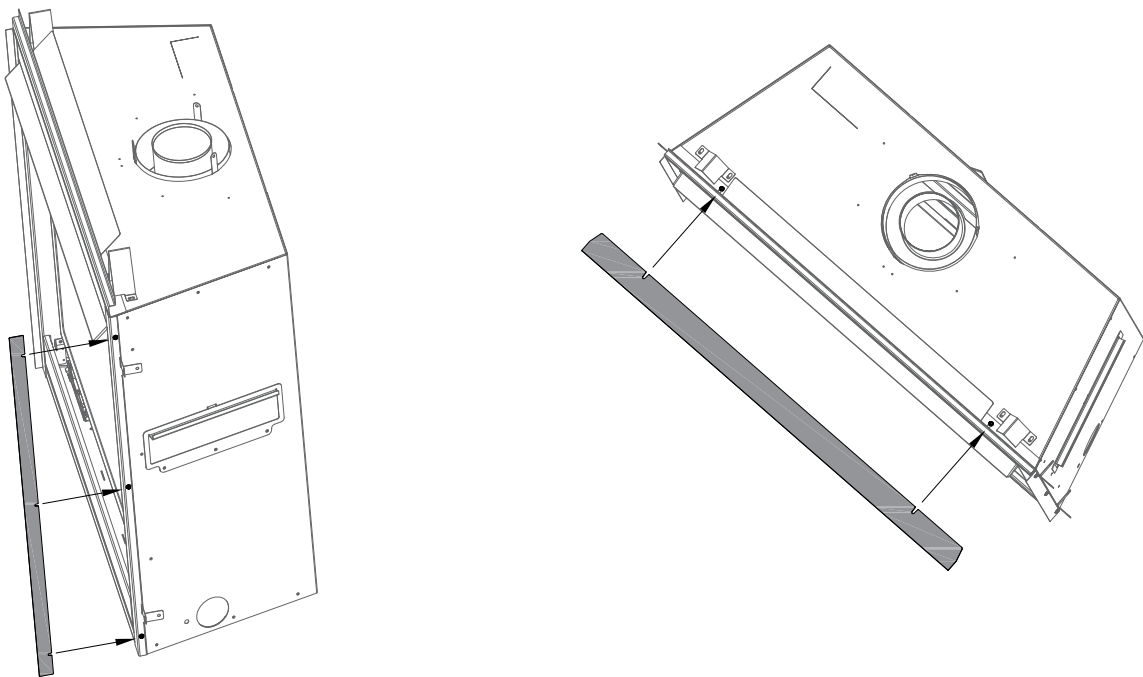

Figure 4.8 - Finishing Trim Kit Installation
1. Install the side trim pieces first. Loosen the (3) sheet metal screws shown in Figure 4.8 and slide the trim piece in. Tighten the screws down to secure the trim piece to the fireplace.
2. Install the top trim pieces. Loosen the (2) sheet metal screws shown in Figure 4.8 and slide the trim piece in. Tighten the screws down to secure the trim piece to the fireplace.